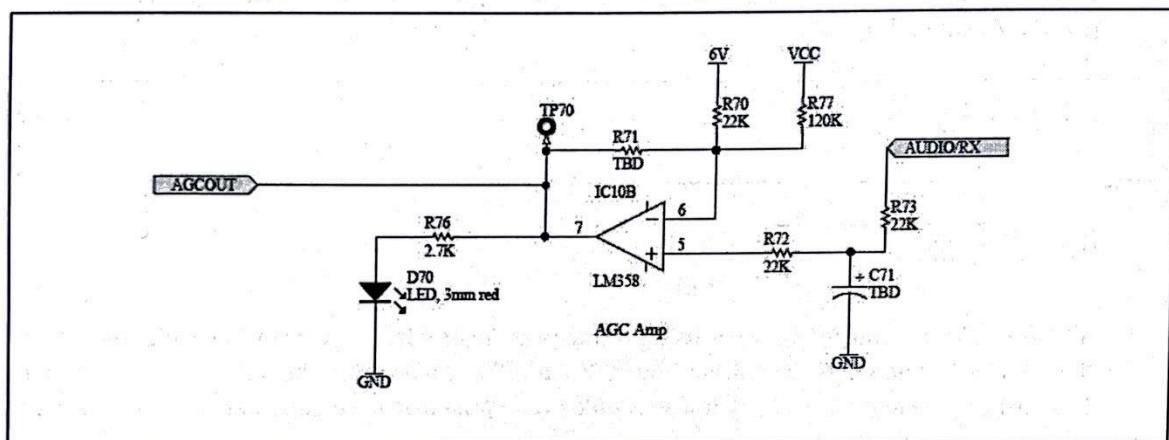

Figure 4: Automatic gain control circuit.
- The automatic gain control (AGC) circuit of TRC-11 is given in Fig. 4.
1. Now, we are ready to incorporate the automatic gain control (AGC) circuitry to prevent saturation of the IF amplifiers. Refer to Fig. 4. Place R70, R72, R73, R75, R77, and D71.